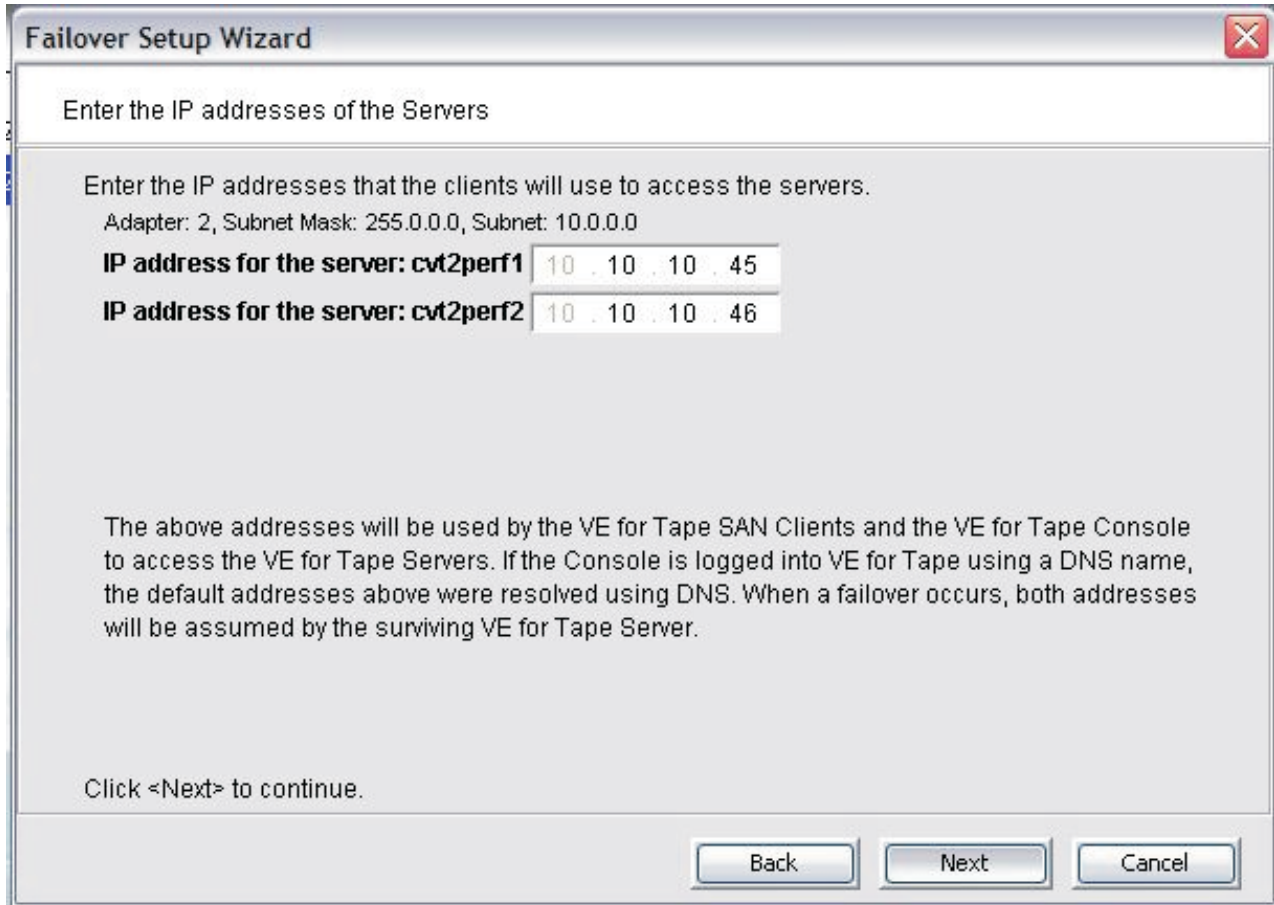

Figure 73. Entering or confirming network interface IP addresses for adapter 2
18. ___ In the Enter the IP addresses of the Servers (Adapter 2) window (Figure 73):